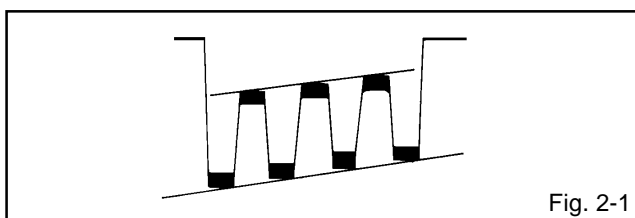

Fig. 2-1
4. Press the VOL. UP/DOWN button on the remote control until the waveform becomes as shown in **Fig. 2-1**.